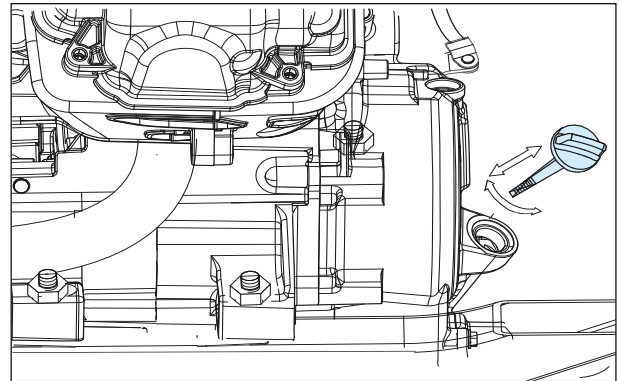

Fig. 2.9
- For checking the oil level, clean the area around the gauge oil level, loosen and remove the gauge oil level by rotating in anti-clockwise direction.(Fig. 2.9)